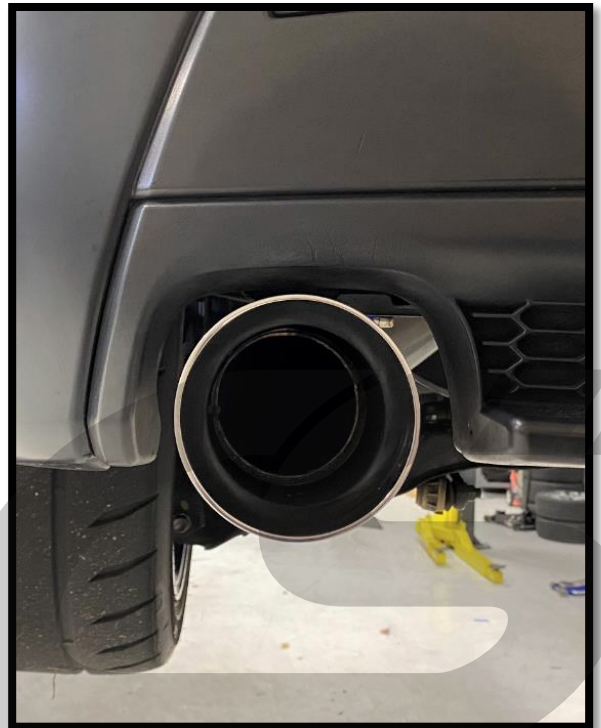

Figure 6h
j) **Shift the exhaust around as needed until the exhaust tip is centered in the bumper cutout and has a decent sized gap all around.** A slightly smaller gap at the top of the exhaust tip is normal. Correct alignment and gap shown in **Figure 6h.**